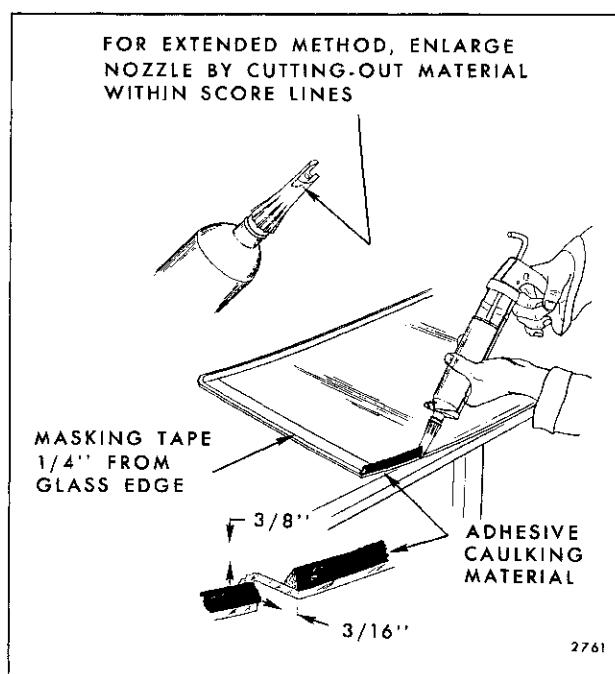

Fig. 4-9—Adhesive Material Application - Extended Method
11. Remove glass from opening and apply one-inch masking tape around inner surface of glass $1/4"$ inboard from outer edge (Fig. 4-9). On windshield installations, apply tape to top and sides only. Do not use tape across bottom. Removal of tape after glass installation will aid in clean-up and give a smooth, even edge to adhesive material.
13. Nozzle furnished in kit is designed for "short" method. For the "extended" method, enlarge nozzle opening by removing material within score lines as indicated in Figure 4-9. Do not notch nozzle beyond score lines.
15. With caulking gun and nozzle positioned as illustrated in Figure 4-9, carefully apply a smooth continuous bead of caulking material $\frac{3}{8}$ " high by $\frac{3}{16}$ " wide at base completely around inside edge of glass.